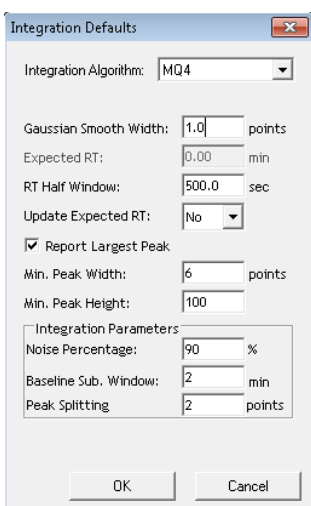

Figure B-4. Integration Defaults for data Processing the Targeted Lipid Profiling data.
2. Click Edit, then Project Integration Defaults. Set the integration defaults as shown in **Figure B-4**.